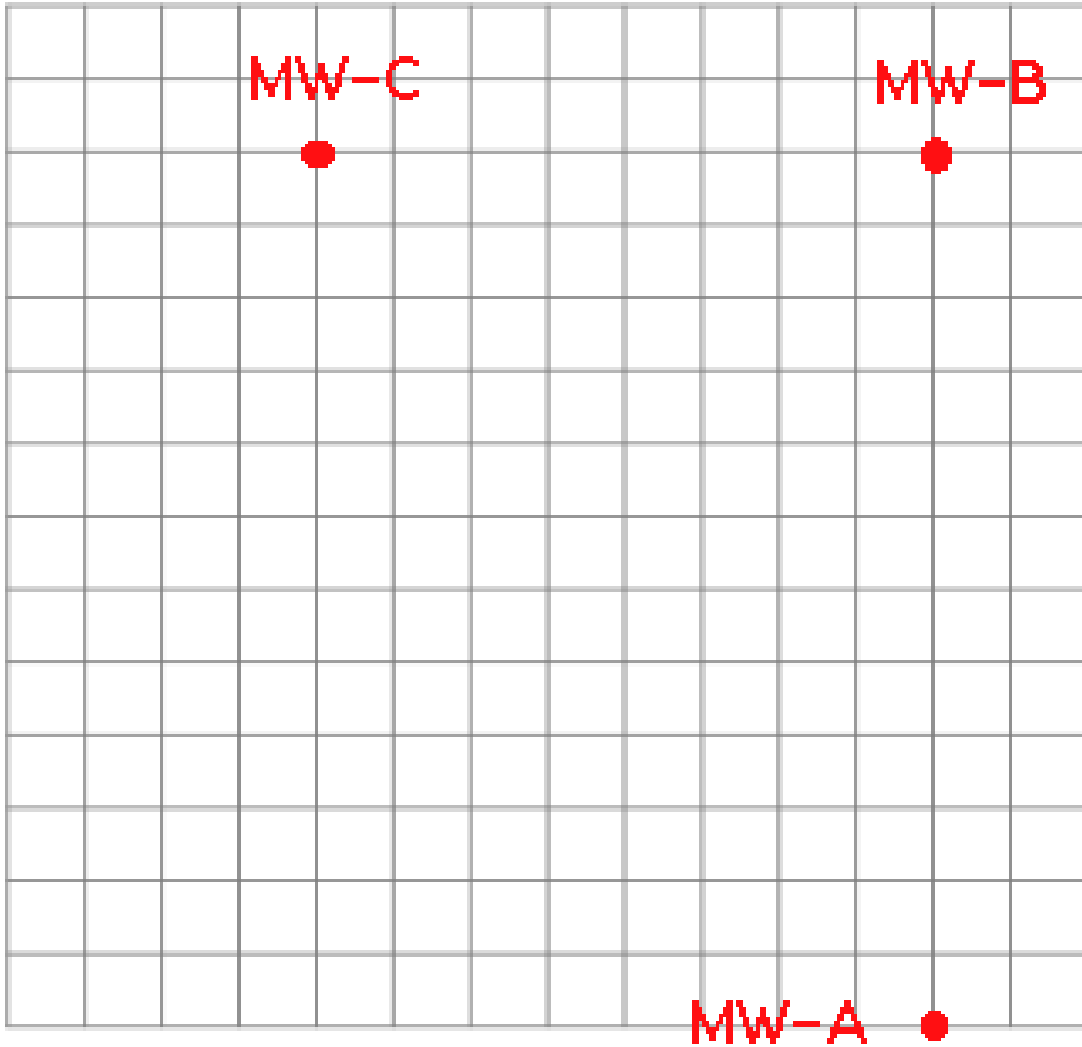

Figure 4: Three-wells monitoring a confined aquifer.
- (f) A sketch the orientation of the three wells is shown on Figure 4. Write the value of head you computed next to each well on the sketch.